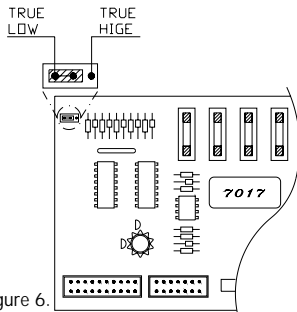

Figure 6.
7.3 ADDRESS POLARITY (see fig 6)